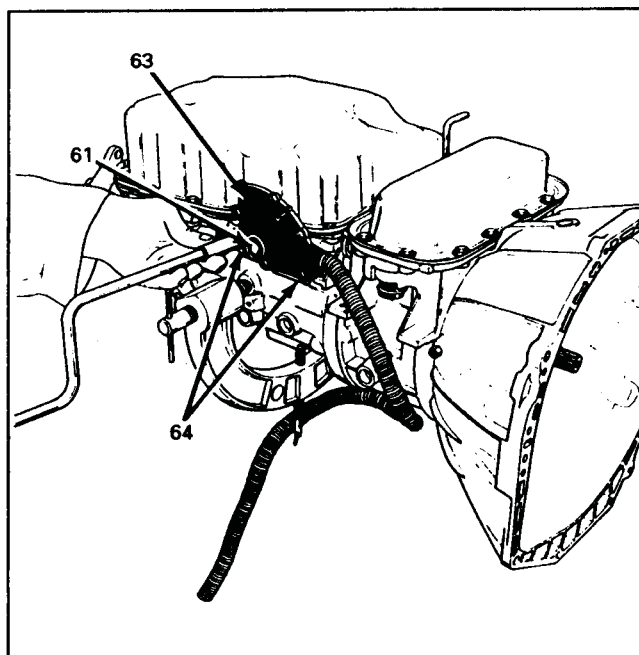

Figure 142
11. Install the mode switch to selector shaft, install mode switch cover and secure with 2 bolts (See Figure 142).